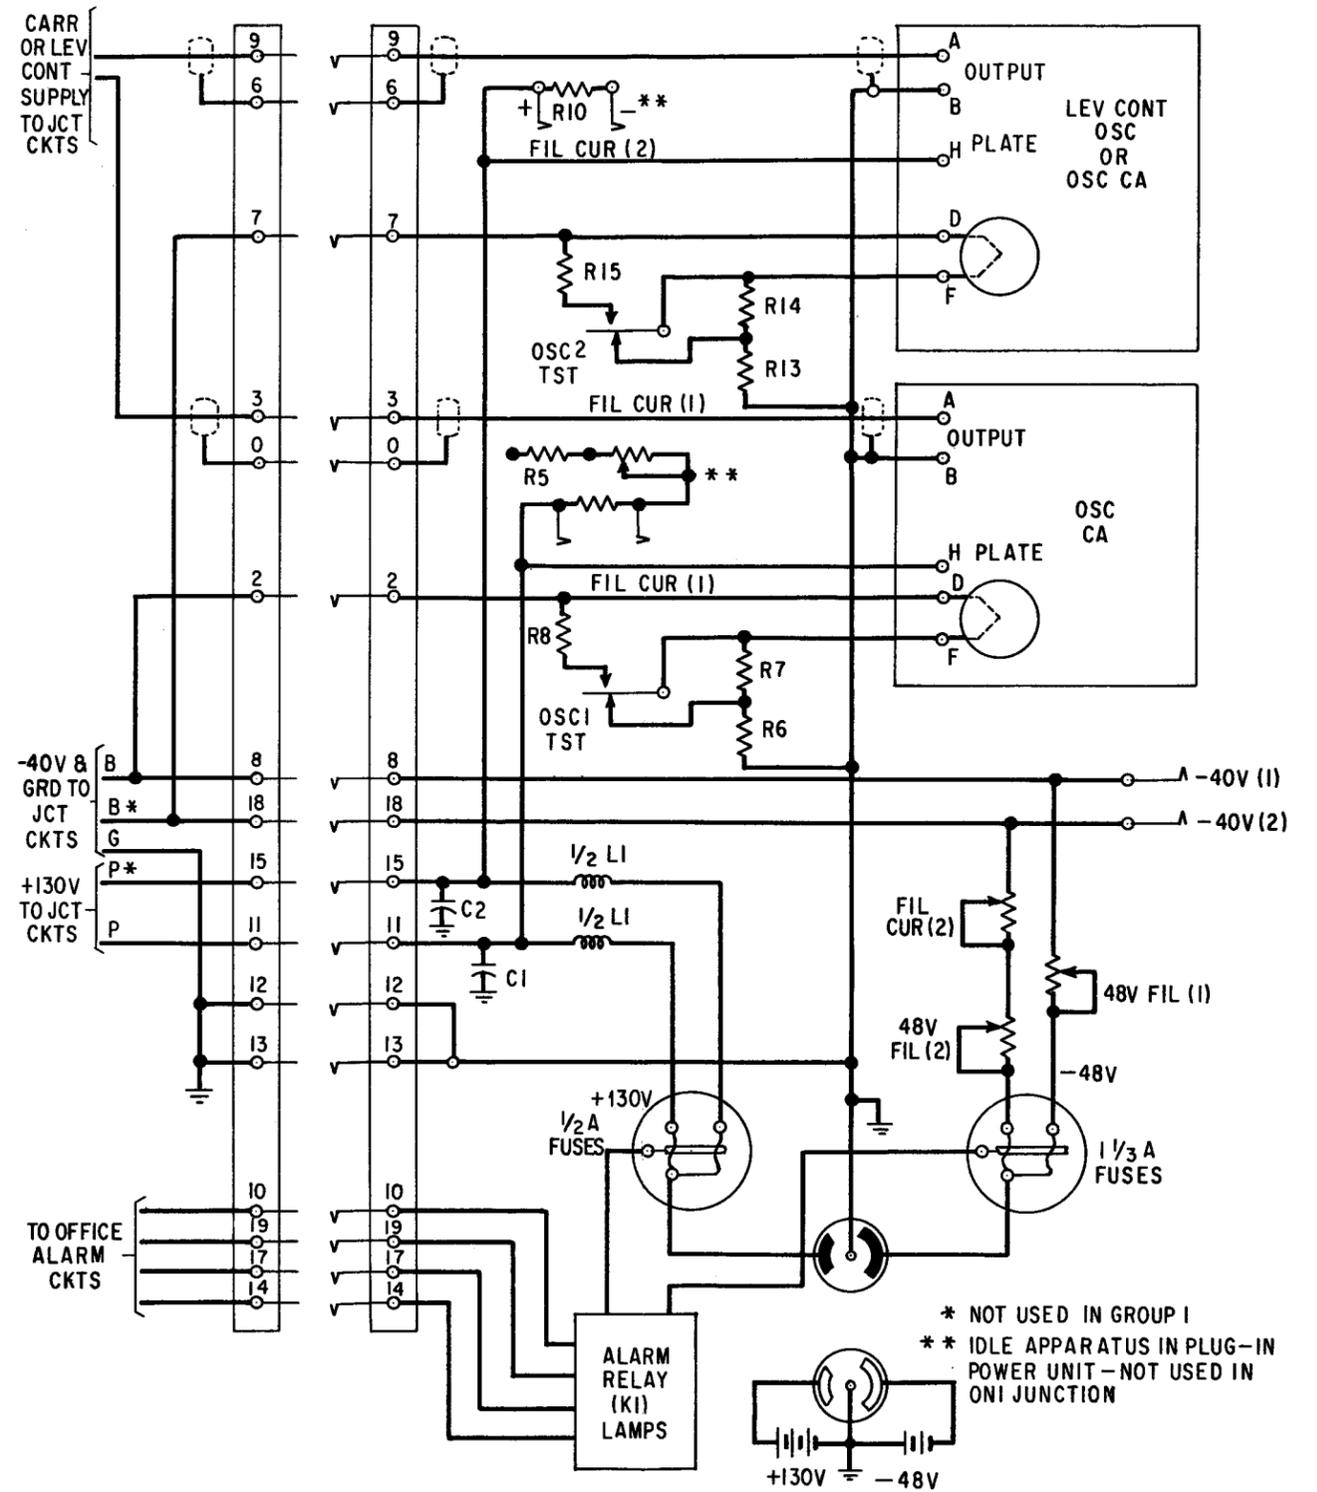

Fig. 2 - Wiring for ON1 Junctions
Power for the junction comes from three supplies like the one shown in Fig. 2. One supply furnishes group 1; the other two furnish groups 2 and 3, and 4 and 5. The heater circuit in the junction requires a -38.5-volt battery. To obtain this battery voltage from the -48-volt supply, voltage dropping rheostats 48V FIL (1), 48V FIL (2), and FIL CUR (2) are provided. These rheostats are adjusted with all junction circuits in position so that the voltage measured at the -40V (1) and -40V (2) test jacks is 38.5 volts when the 48-volt supply is at its average value. It is important to readjust the heater voltage whenever an additional group is added. The purpose of this test is to set the heater supply voltage to the correct value.